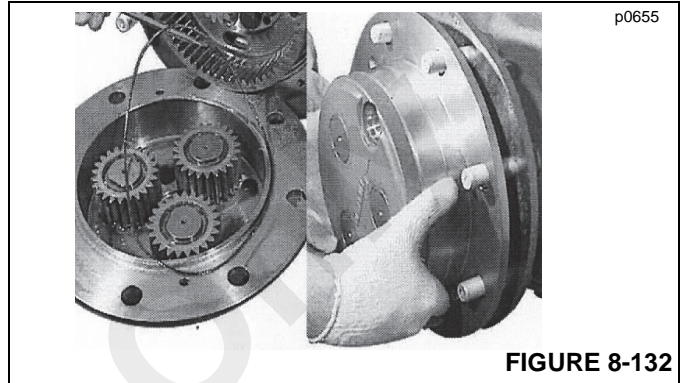

FIGURE 8-132
3. Install a new O-ring on the planetary carrier (Figure 8-132).